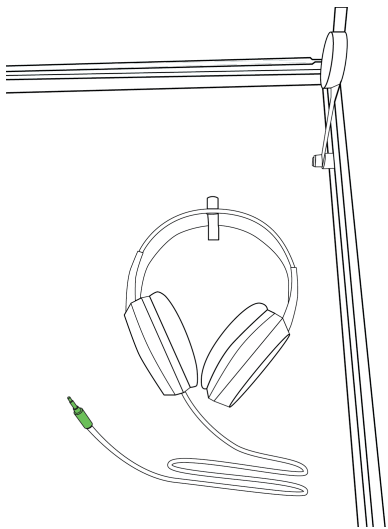

Figure 6-29. Headphones secured to the holding clip
3. Plug the headphones into the auxiliary port located on the back right side of the touchscreen and secure the headphones to the holding clip (Figure 6-29).